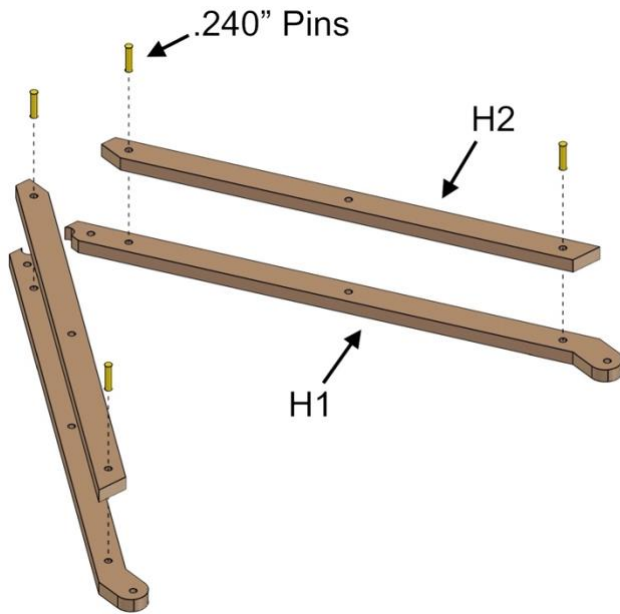

Fig. 37
- Align parts EXACTLY as shown in Fig. 37.